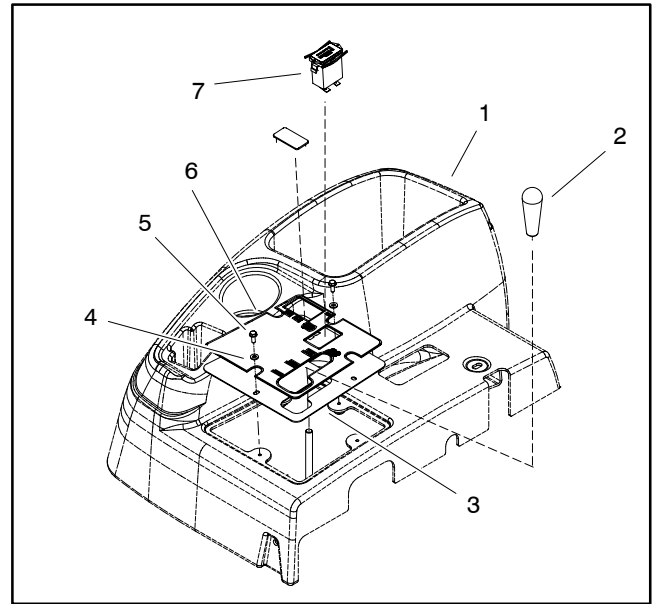

Figure 6
3. Remove four (4) screws and flat washers that secure control panel to console (Fig. 6). Lift control panel, unplug wire harness connector from hour meter and remove control panel from machine.
3. Connect wire harness connector to hour meter and position control panel to console. Secure control panel with four (4) screws and flat washers (Fig. 6).